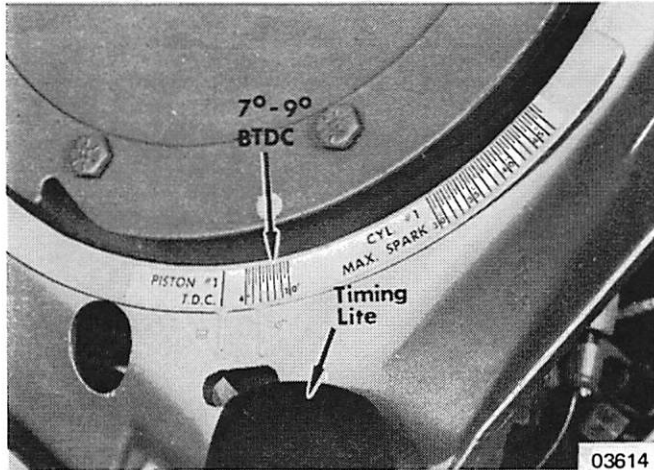
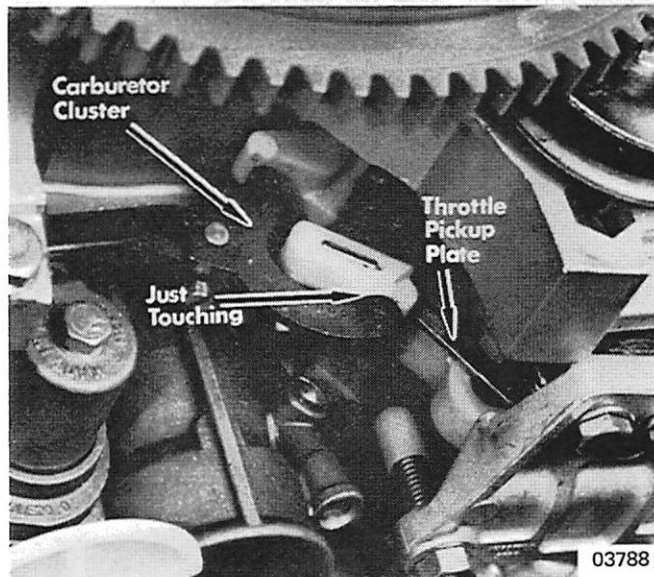

Figure 9. Timing Alignment (Merc 1250SS)
Figure 10. Carburetor Pickup Touching Carburetor Cluster
- Using timing lite, advance throttle until timing mark (3 dots) on flywheel align with 7°-9° BTDC line on timing decal. (Figure 9) At this point, carburetor pickup should just touch carburetor cluster (.000" to .005" [.127mm] clearance). (Figure 10)